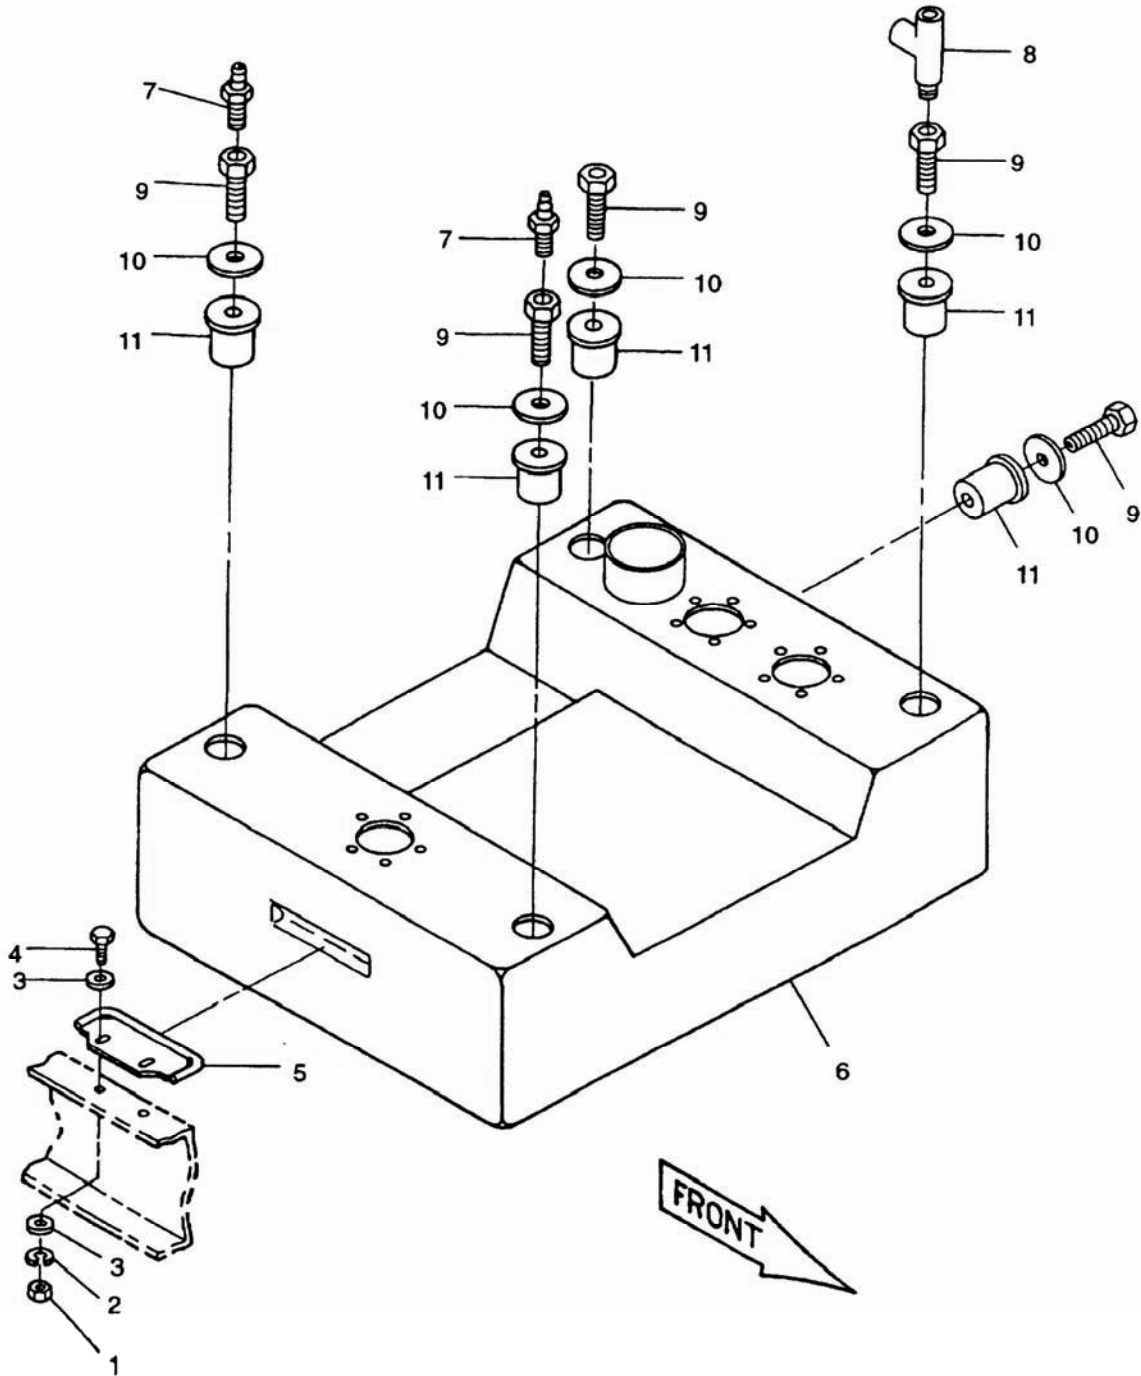

Figure 4-2. Fuel Tank.
- c. Inspect fuel tank (6, Figure 4-2) for leaks, cracks, missing hardware, and other damage.
- f. Remove nuts (1, Figure 4-2), lock washers (2), washers (3), bolts (4), and plates (5) securing fuel tank to skid base. Discard lock washers (2).
- g. Remove fuel tank (6) from skid base.
- k. Remove fittings (7) from excess fuel studs (9) on right side of tank.
- l. Remove fitting (8) from excess fuel stud (9) on left side of tank.
- m. Remove studs (9), washers (10), and bushings (11) from fuel tank.
- b. Install bushings (11, Figure 4-2), washers (10), and studs (9) in fuel tank (6).
- c. Install fitting (8) in excess fuel stud (9) on left side of fuel tank.
- d. Install fittings (7) in excess fuel studs (9) on right side of fuel tank.
- h. Install fuel tank (6) in skid base and secure with plates (5), bolts (4), washers (3), new lock washers (2), and nuts (1).